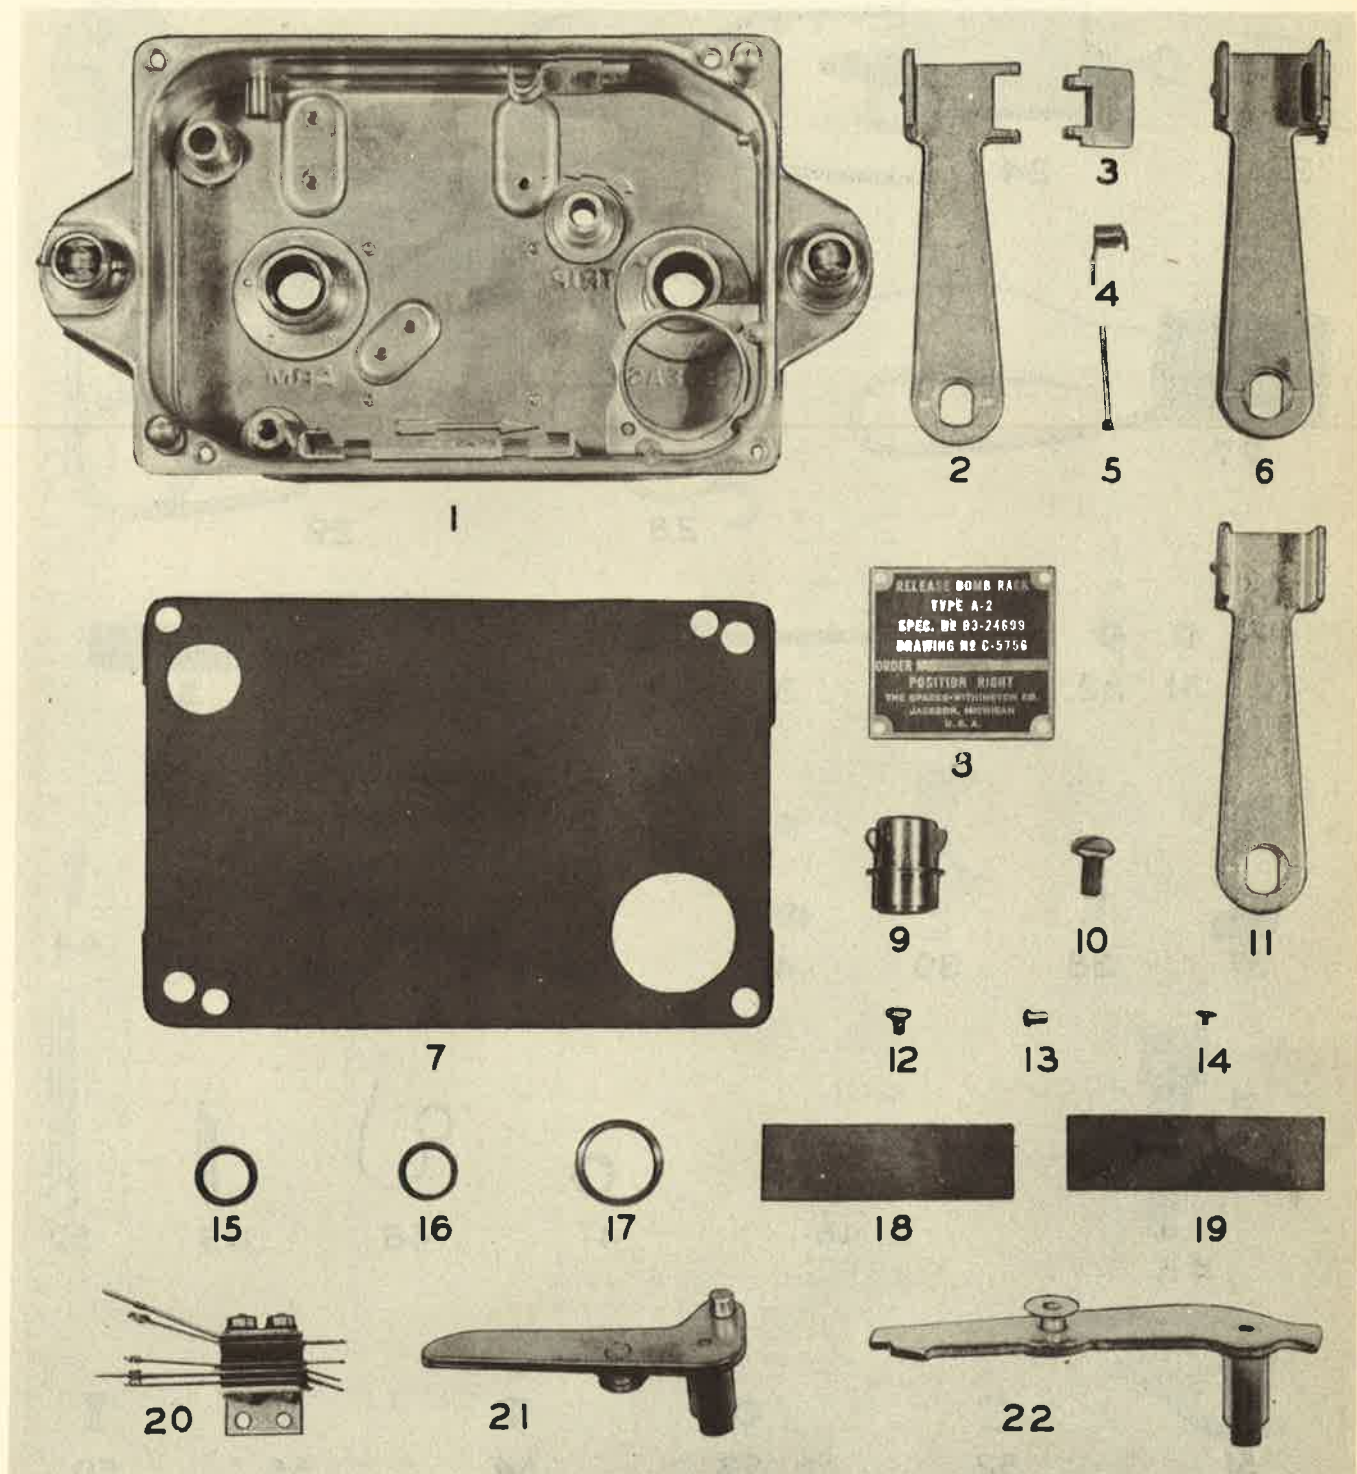

Figure 1 - Disassembled View - Type A-2 Bomb Rack Release
e. The coupling assembly terminates on outside of case as shown in figures 1, 4, and 5, and must be capable of mechanically locking and unlocking the bomb rack release and tripping the release lever only. The position of the mechanism for each operation must conform with figures 4 and 5. The moment required to turn the mechanism must not exceed 4 inch pounds for the release position, and 2 inch pounds for the lock position.
(1) The salvo coupling shall be checked to determine that its resting position for electrical release is 90 degrees plus or minus 4 degrees from the horizontal mounting centerline with "selective" existing 4 degrees on each side of the resting position.
(2) When viewing the left-hand assembly from the shackle side, the salvo coupling shall be checked to determine that it will salvo unarmed somewhere between 10 degrees and 15 degrees clockwise rotation from the vertical reference line.
(3) When viewing the left-hand assembly from the shackle side, the salvo coupling shall be checked to determine that it will mechanically lock the solenoid and release lever through the entire angle between 12 degrees counterclockwise rotation from the vertical reference line.
(4) When viewing the right-hand assembly from the shackle side, the salvo coupling shall be checked to determine that it will salvo unarmed somewhere between 10 degrees and 15 degrees counterclockwise rotation from the vertical reference line.
(5) When viewing the right-hand assembly from the shackle side, the salvo coupling shall be checked to determine that it will mechanically lock the solenoid and release lever
NOTE: Figures 1 and 2 are for a right hand assembly. Left hand assembly parts are either alike or exactly opposite to those that are shown. The Assembly Parts Lists make clear which parts are common to both assemblies and which parts are common to one assembly only.